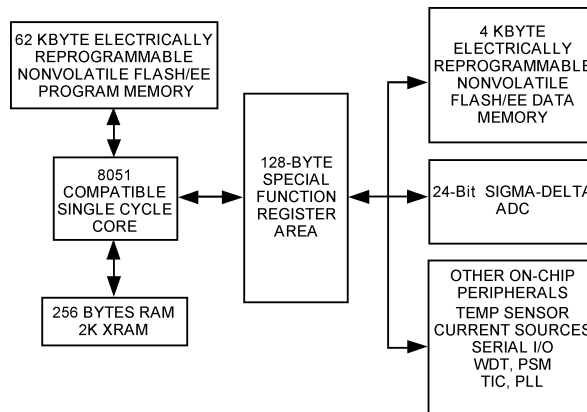

Figure 5. Programming Model
The SFR space is mapped into the upper 128 bytes of internal data memory space and accessed by direct addressing only. It provides an interface between the CPU and all on chip peripherals. A block diagram showing the programming model of the ADuC847 via the SFR area is shown in Figure 5. All registers except the Program Counter (PC) and the four general-purpose register banks, reside in the SFR area. The SFR registers include control, configuration, and data registers that provide an interface between the CPU and all on-chip peripherals.